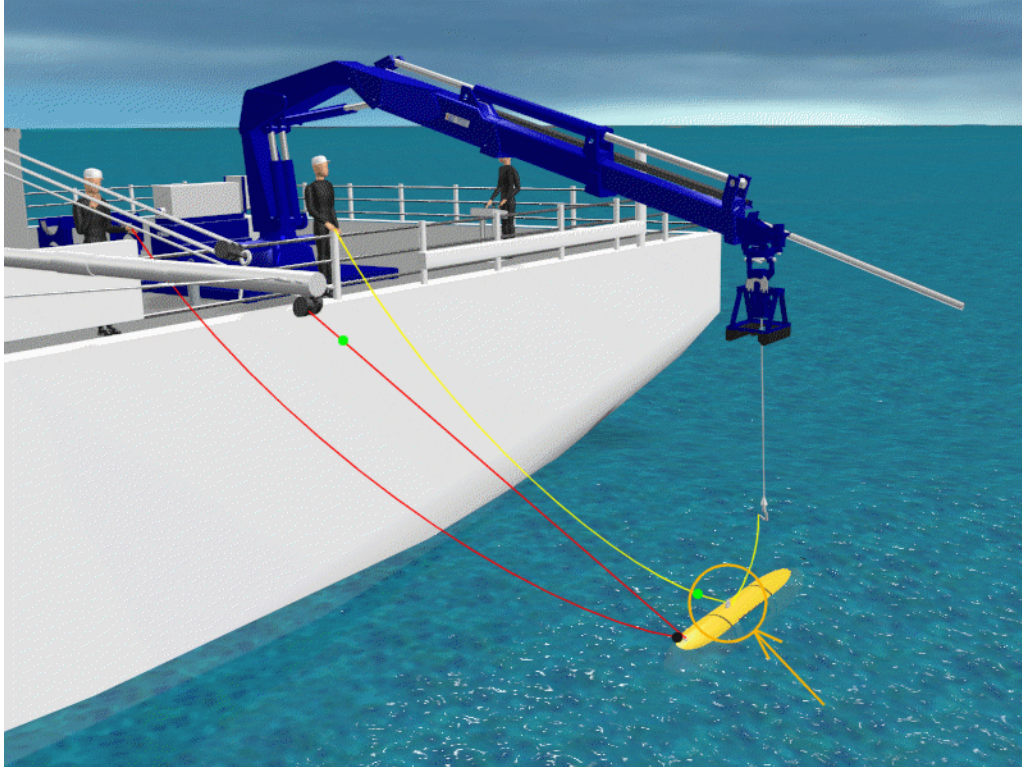

Figure 4-14
16. Pay out the guide line until it just reaches the water, then drop the line onto the AUV hull and move aft until engaged with the AUV lifting hook as shown in Figure 4-14.